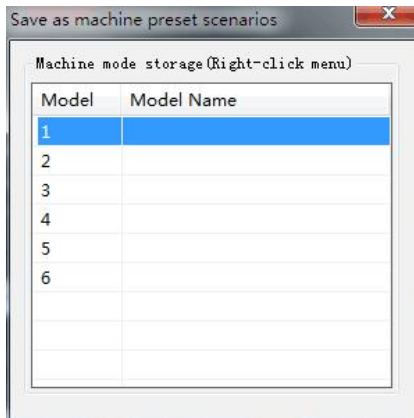
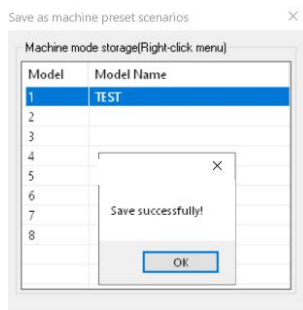

Figure 3.4.2
Figure 3.4.3
**Step2:** Click "Save as machine preset scenarios " item will pop up after the Save As dialog window machine preset (Figure 3.4.2).
**Step 3:** Figure 3.4.2 dialog box, does not show the name of the data indicates that this scene is the factory default data, select the user preset number you want to save the machine location (such as Option 4), and then point below the "save" button, you pop up as shown in Figure 3.4.3," enter the scene name "box. **If you select the number of the existing scene name, it will overwrite the original data!!!**